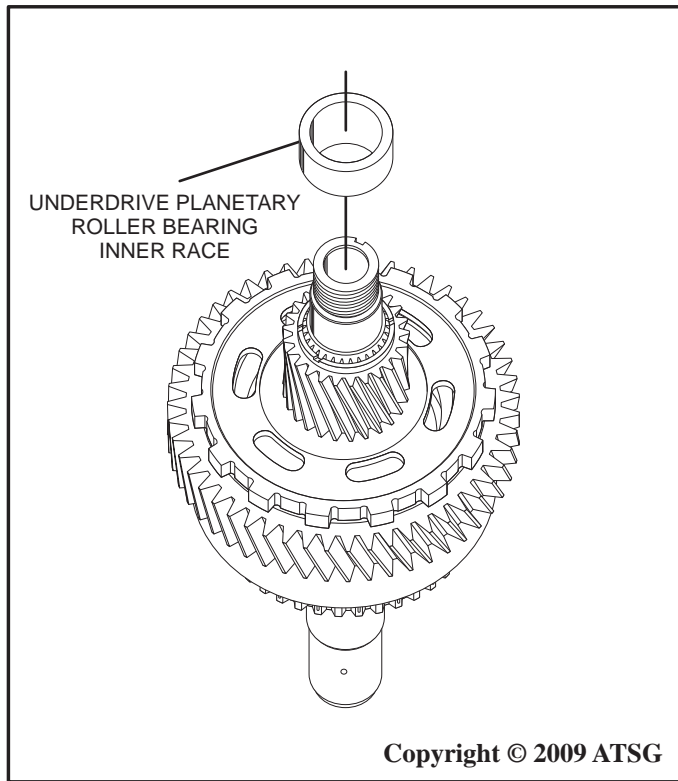

Figure 77
14. Using SST 09506-35010, 09950-60010 (09951-00250) or equivalent, press the underdrive planetary roller bearing inner race **while turning the counter driven gear** and seat it against the differential drive pinion gear as shown in Figure 77.